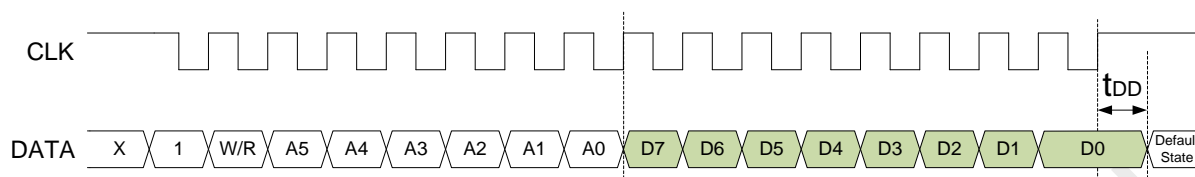

Figure 2. TWI W/R Timing Chart (Except for TWI_RST Command)
5. The DATA pin is a bi-directional port, and it will be switched to output port in the last 8 clock cycle of a Read command. At this time, the host MCU should switch the corresponding port which is connected to the DATA pin to input port at the coming CLK rising edge, shown as dash line in the middle of Figure 2, so that there is no voltage conflict between the two ports and the read out function is correctly behaved.